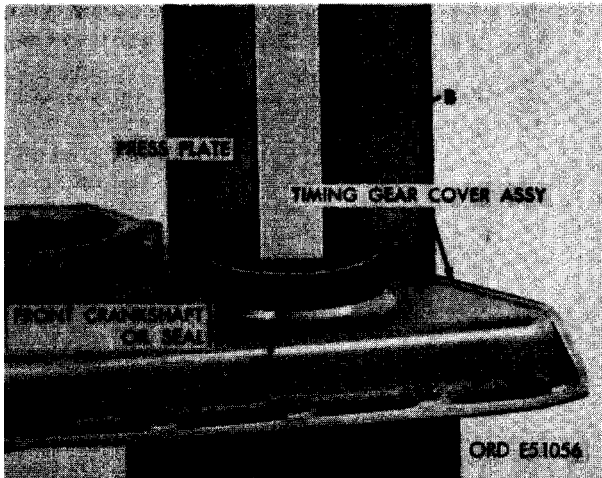

FIGURE 212. INSTALLING CRANKSHAFT FRONT OIL SEAL.
- (2) Figure 212. (A) Position crankshaft front oil seal in bore of timing gear cover assembly. (B) Install seal in bore using arbor press and suitable press plate.